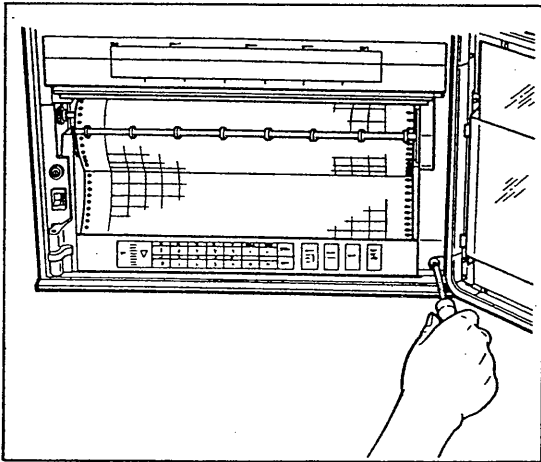

Figure 6-11.
- i) Open the recorder front door and remove the internal assembly lock screw with a Phillips screwdriver (see Figure 6-11).